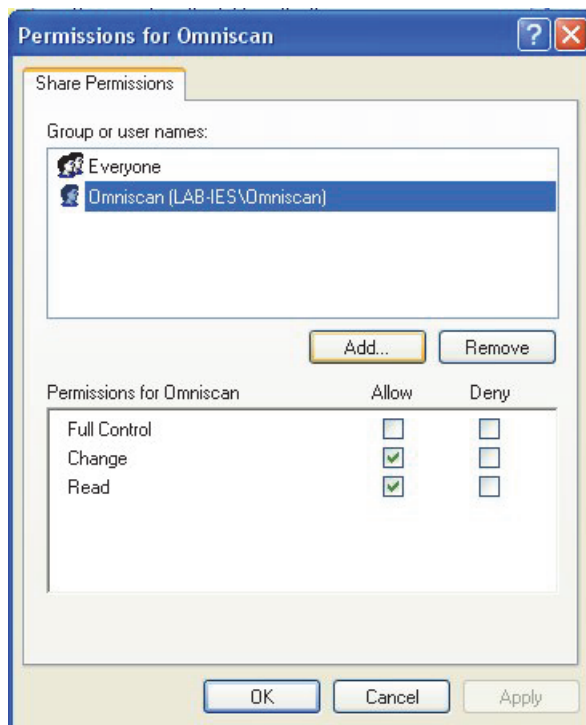

Figure 14-12 The Permissions for Omniscan dialog box (Windows XP)
11. In the **Permissions for Omniscan** dialog box, in the **Allow** column, select the **Change** and **Read** check boxes (see Figure 14-12 on page 306), and then click **OK**.